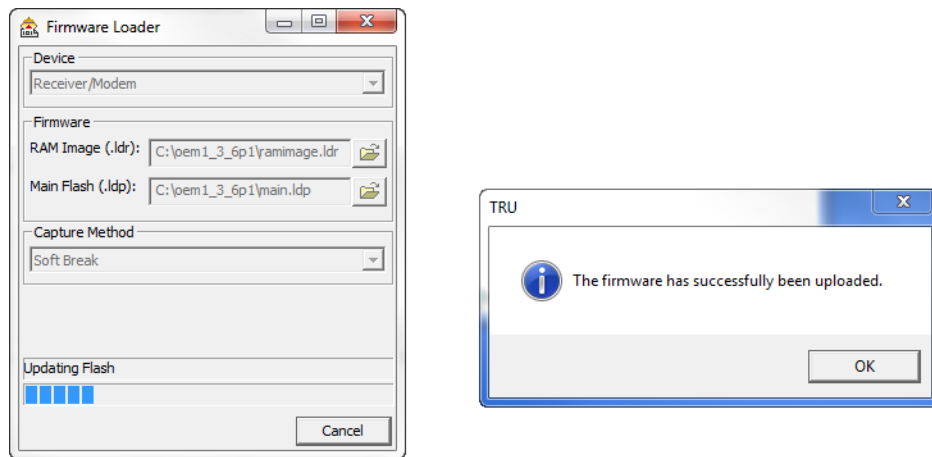

Figure 9: Finishing Firmware Upload
8. Click **OK** to continue uploading new firmware to the receiver (see Figure 9).